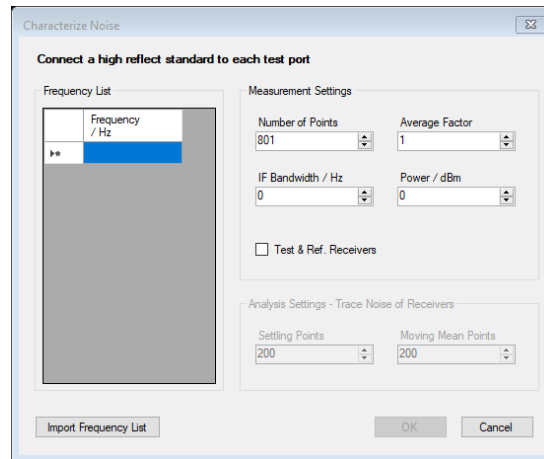

Figure 14: Database / VNA Device / Characterize Noise
The dialog called Characterize Noise, see figure 14, is designed to characterize and analyze the noise floor and trace noise of a VNA. This is done by connecting a high reflect to each test port and measuring the S-parameters or optional the test and reference receivers. For the noise characterization each frequency is measured in continuous wave (CW) mode to minimize drift effects. The following user controls are available: